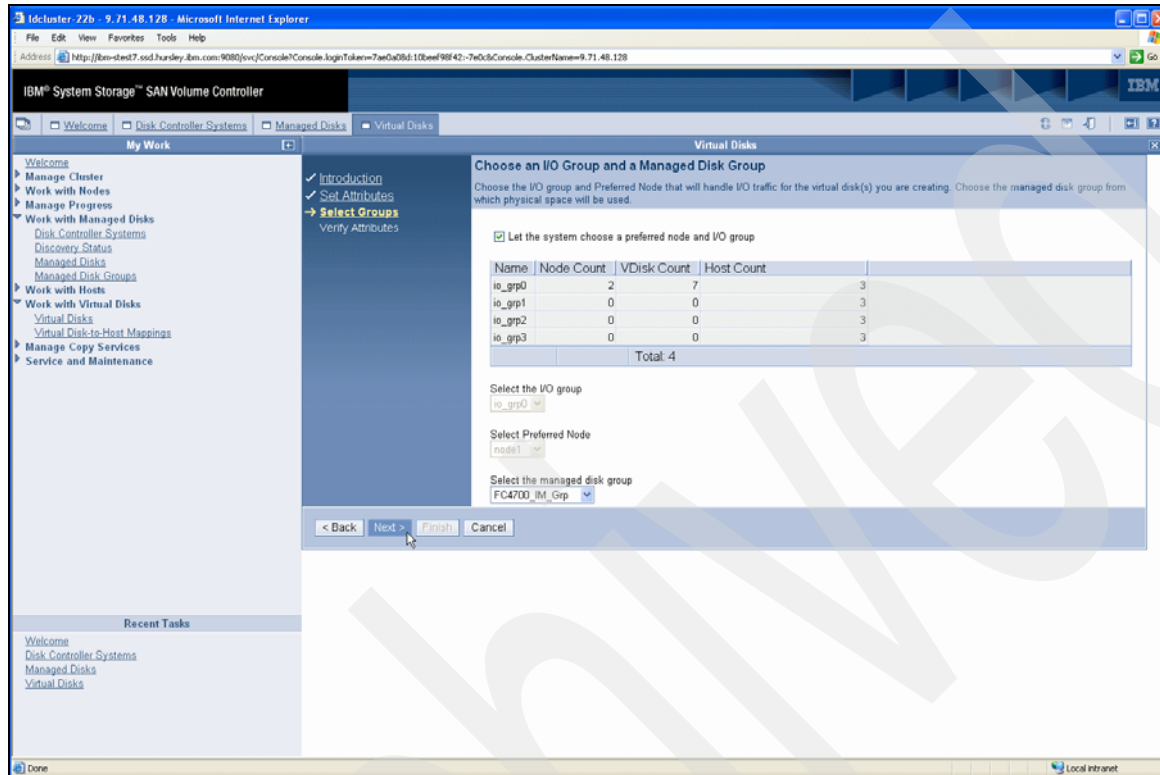

Figure 6-23 Create Image Mode VDisk choose I/O group and managed disk group
9. On the next panel (Figure 6-23) you have the choice of defining which I/O group the Image Mode VDisk will be part of, which node is preferred, and which MDisk group it will be assigned to. We recommend that you allow the system to choose the preferred node and I/O group. Select the MDisk group that you have created for this Image Mode VDisk. Click **Next**.